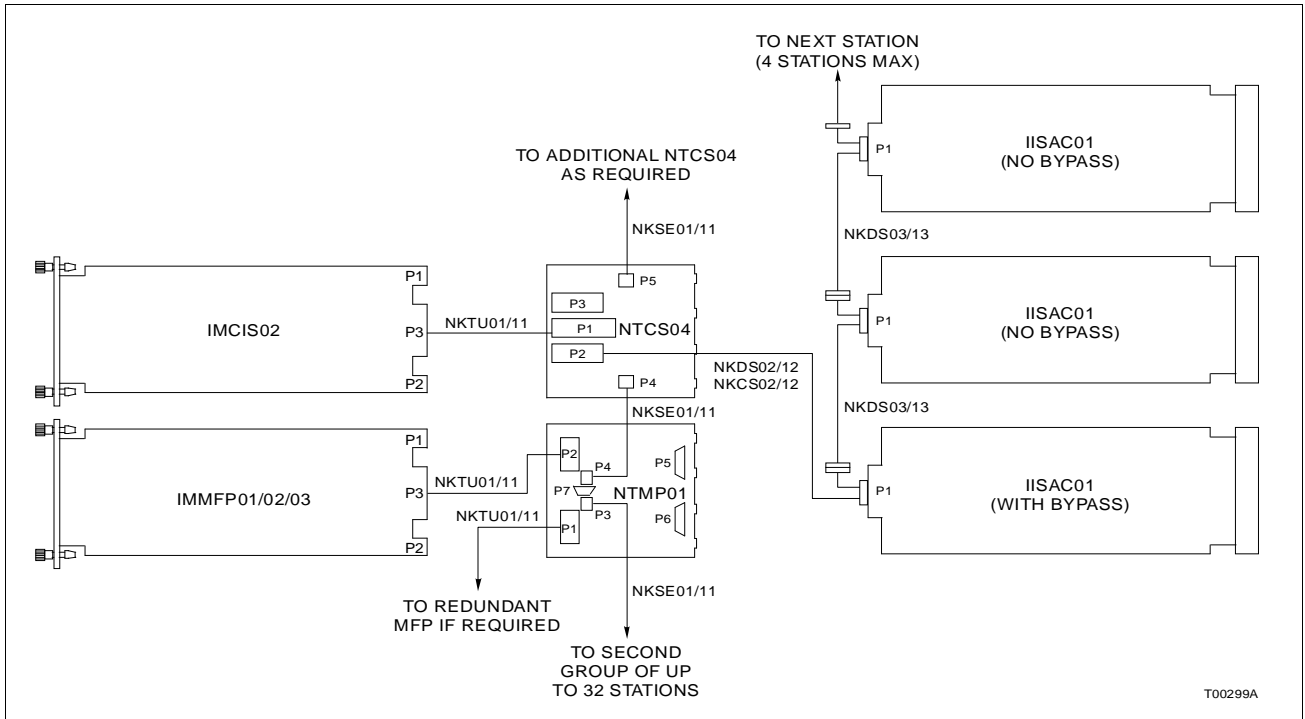

Figure 3-4. Cable Connections for TCS Termination Unit with Multiple Interconnected SAC Stations
2. Connect the successive stations (maximum of 8, 4 from P2, 4 from P3) to the first station using a KCS (only 1 analog input with KDS), NKDS02 or NKDS12 cable. There is an additional connector on the KCS or KDS that connects to the NKDS03 and NKDS13 cable. Figure 3-4 shows a diagram of an interconnected installation.